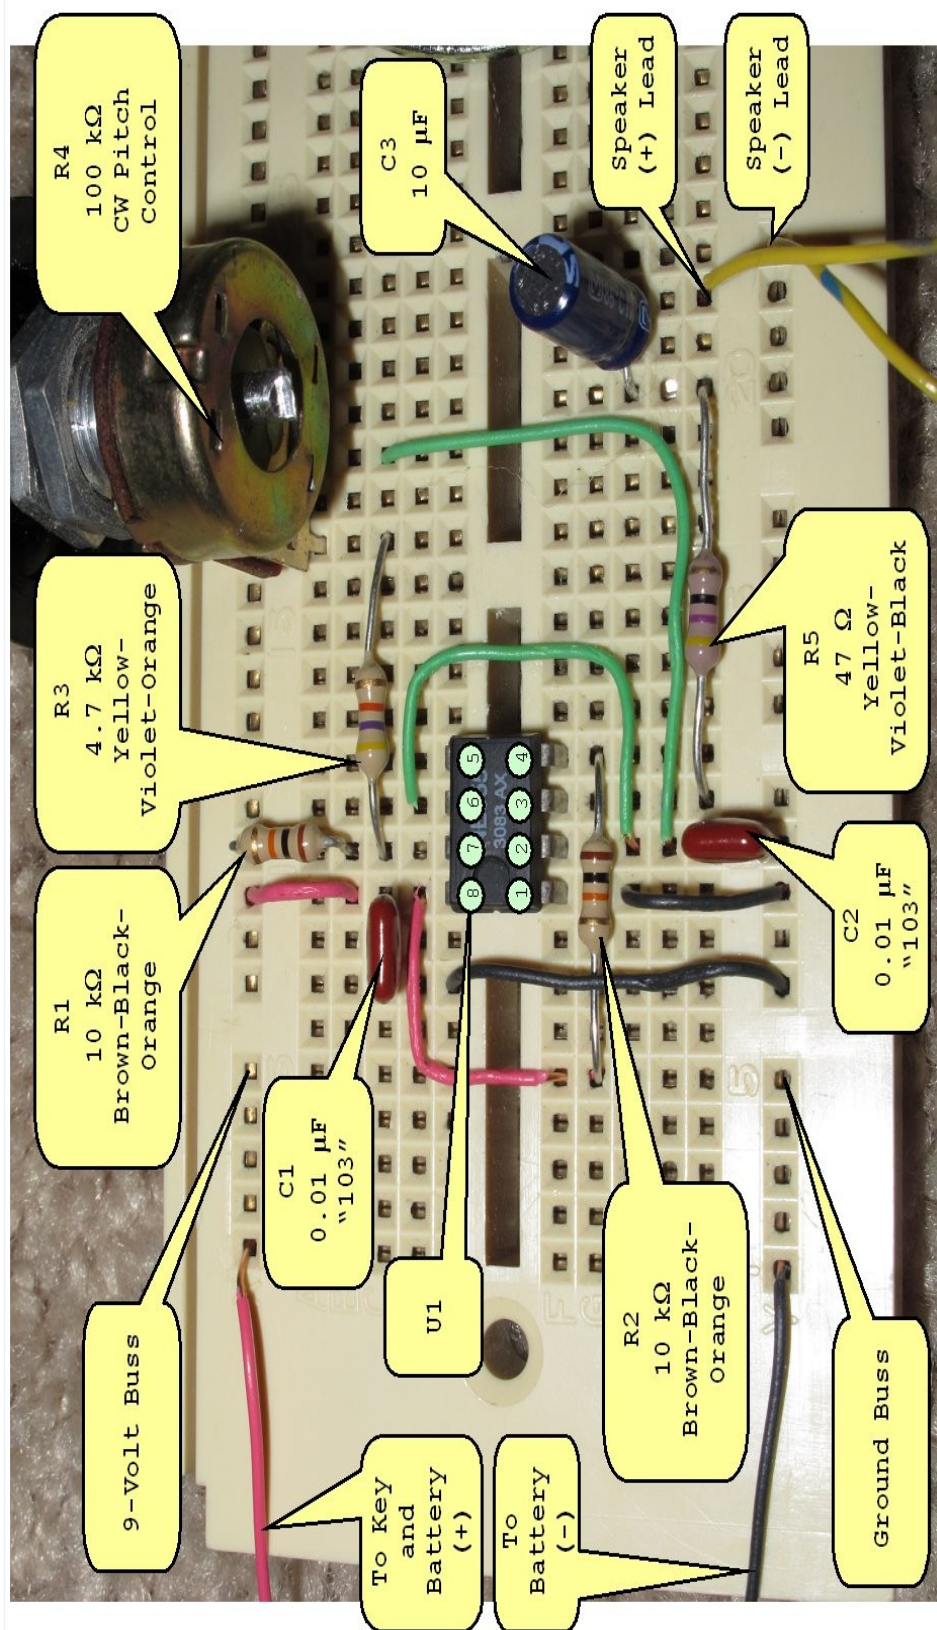

Figure 3: Suggested Component Layout for the Code Practice Oscillator
The code practice oscillator can be built on a universal breadboard. Keep wiring short, and make sure to use the top and bottom "busses" for power (9 volts) and ground. Figure 3 illustrates a suggested layout for the circuit elements.
*Now refer to Figure 3 in Tom's article, the photograph of the breadboard. Find pin 4 on the LM555 IC. Pin 4 is at the top of a column of five holes. There is only one other thing in that column: the right-hand side of R2. That matches the schematic! (I love it when that happens.) The other end of R2 is in a different column of holes. It connects to a wire that crosses above the middle of the board and turns right into another column of holes. Below the wire in that column is pin 8 of the LM555 IC. Above the wire is one end of capacitor C1. Above the capacitor connection is a wire that leads to the top row of holes.*